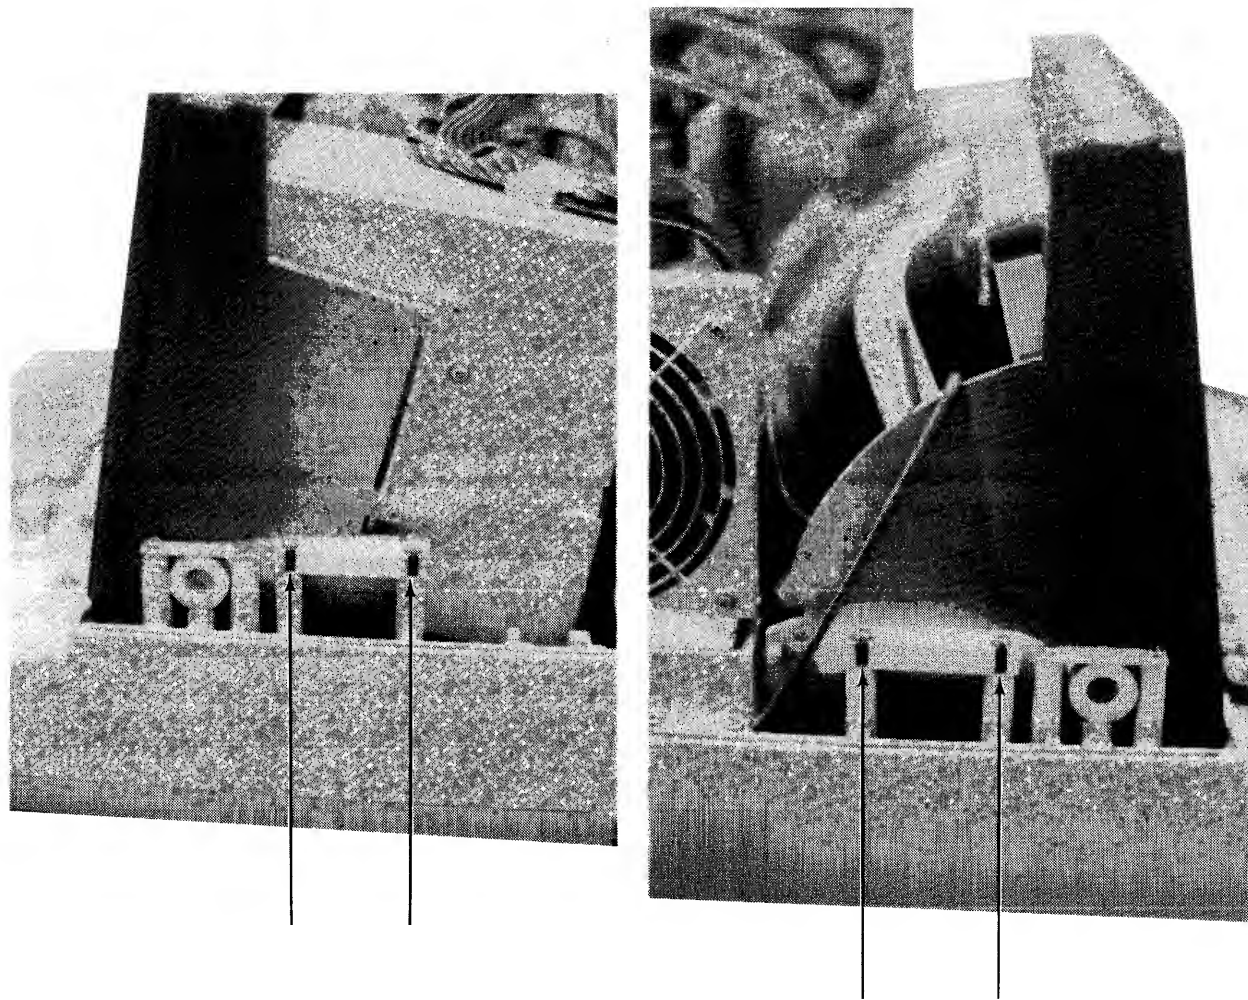

Figure 2-1. Display Panel Attach Screw Locations
- d. Remove the four display bezel attach screws and washers. See figure 2-1.
- h. Pull up the lock bracket on the left side of display bezel and push bezel back into mainframe. See figure 2-1.
- j. Reattach the four display bezel attach screws and washers. See figure 2-1.